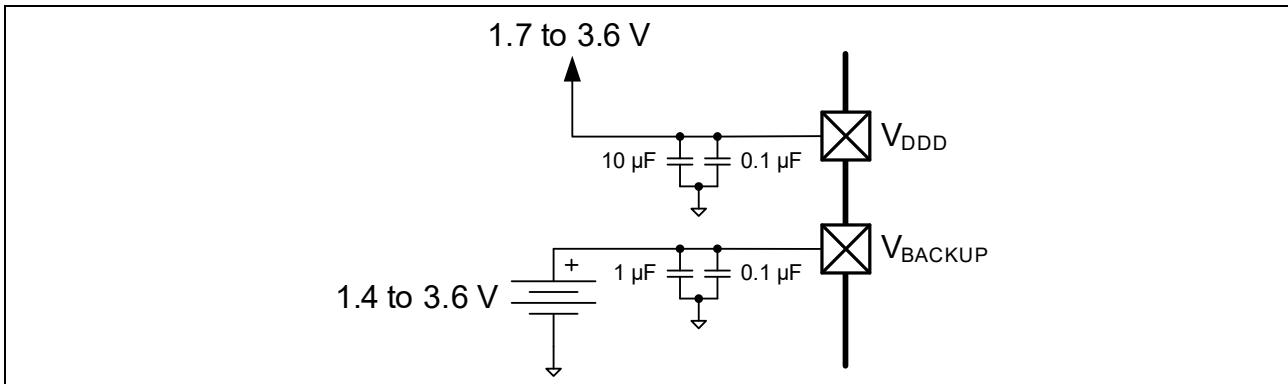

Figure 16 Separate Battery Connection to V_{BACKUP}
- V_{BACKUP} : the supply for the backup domain, which includes the 32-kHz WCO and the RTC. It can be a separate supply as low as 1.4 V, for battery or supercapacitor backup, as Figure 16 shows. Otherwise it is connected to V_{DDD} . It powers I/O port 0.